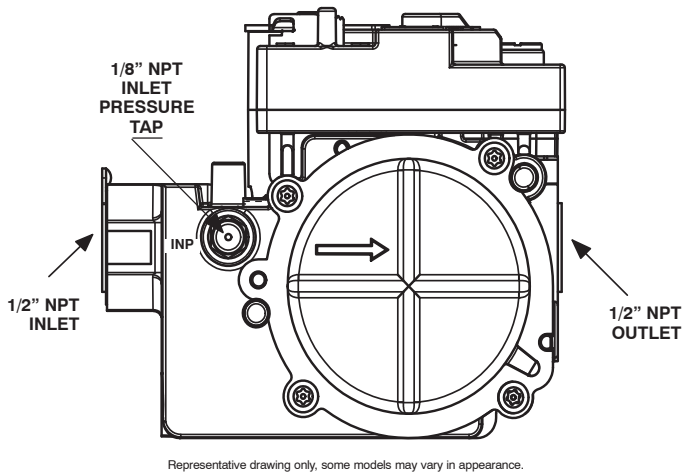

Fig. 14 – Automatic Gas Valve (Two-Stage) with Tower Pressure Ports
Refer to Fig. 13 or Fig. 14.
1. Remove caps that conceal adjustment screws for high heat and low heat gas-valve regulators, see Fig. 13 or Fig. 14.